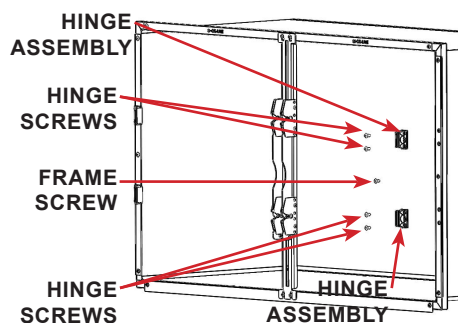

FIGURE 2.22 - Double Door Cage
STEP 11: DD Cage - Remove the screws (4 ea) holding the hinges, and the center frame screw between the hinges from the previous set cage. See FIGURE 2.22
NOTICE DD Cage latches (FIGURE 2.22) share a center latch plate, it is **NOT** necessary to remove the latch assembly on a double door cage.